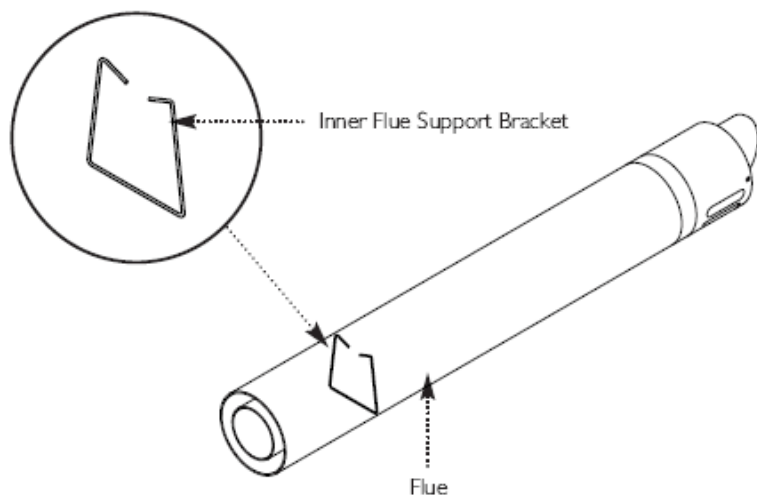

Fig. 28
6. Ensure the inner flue support bracket is positioned in the flue (Fig. 28).